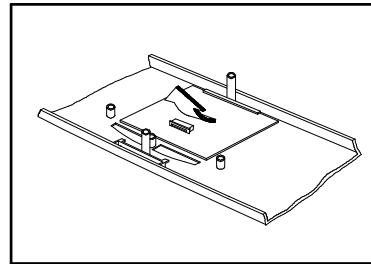

Figure 6-28 Removing/Replacing the Touchpad Assembly
3. Refer to Figure 6-28; remove the center screw and disconnect the Touchpad cable J1.